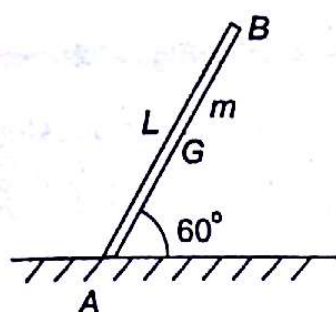

Fig. 17.16
17.3 A rod AB of mass m and length L is released from rest where angle $\theta = 60^\circ$. What is angular acceleration of the rod about an axis through end A (Fig. 17.16)?